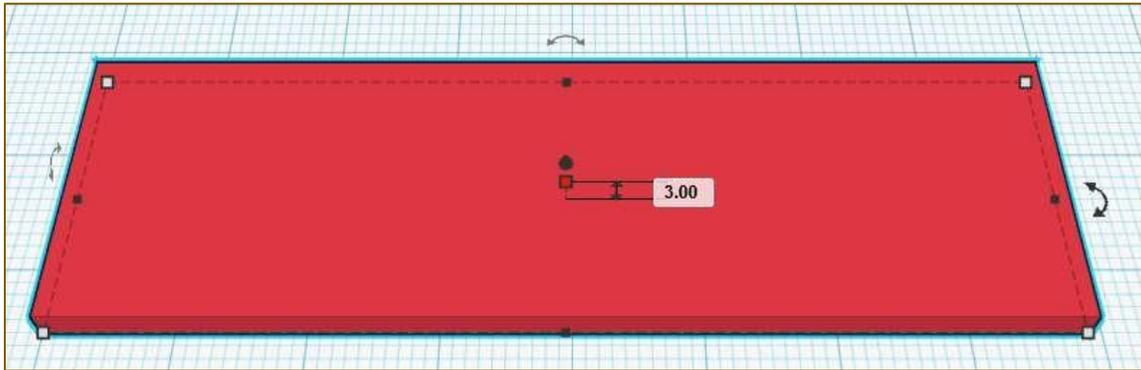

Fig.2.15 Reducing the height/thickness to 2mm
4. Grab the middle handle and reduce the height/thickness to around 2 mm. (Refer fig. 2.15)